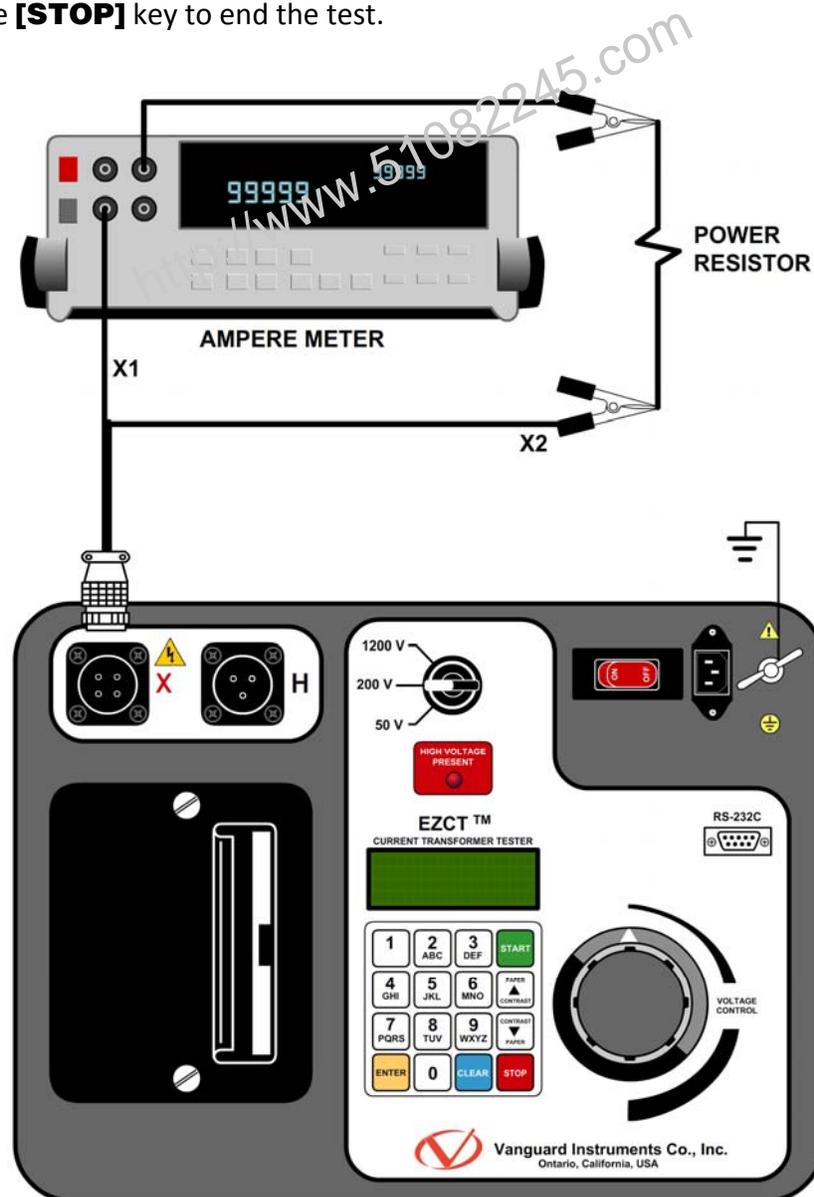

Figure 16. EZCT I_x Verification Test Connections
- Connect the X cables to a power resistor and an RMS amperemeter as shown in Figure 16.